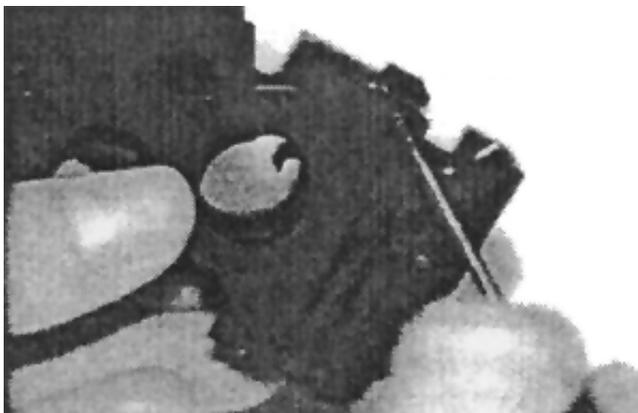
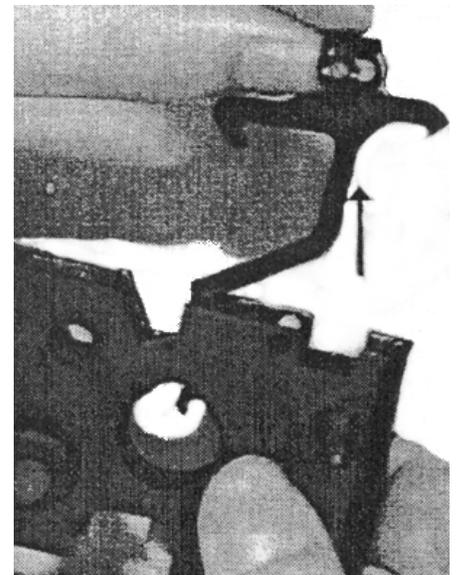

Figure 26
Figure 27
- Push out the *catch lever axle* with a punch (Figure 26) and remove the *catch lever* (Figure 27).